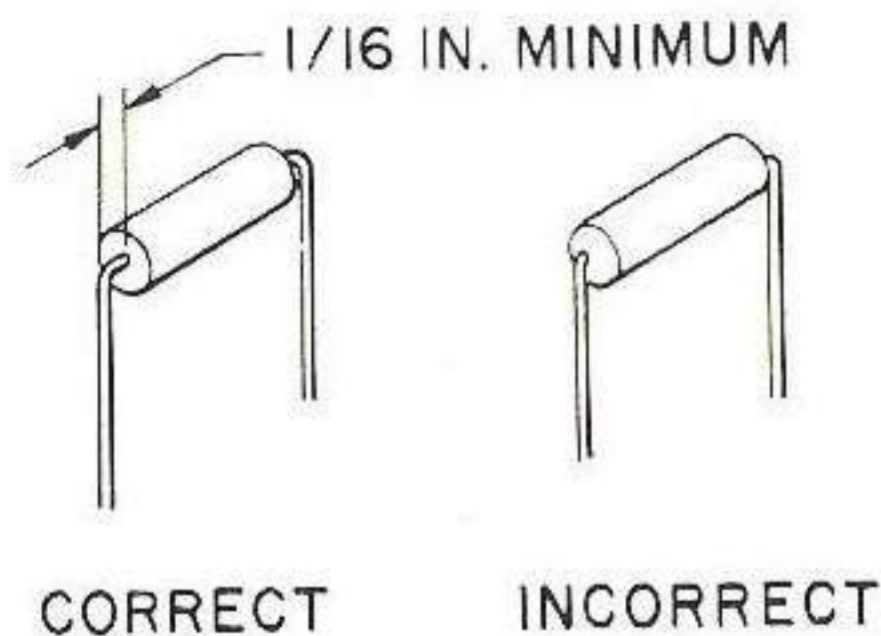

Figure 33. Minimum Pigtail Bend
b. Pigtails should have a minimum clearance of 1/16 inch between bend and component body as shown in figure 33. When making the minimum bend, support end seal of component with wire-bending pliers.